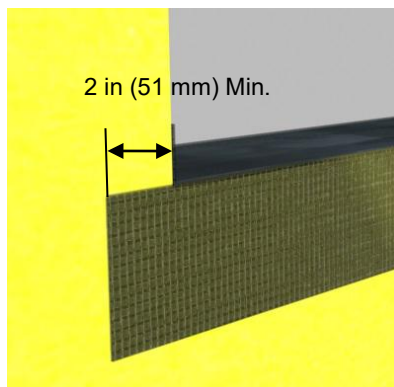

Figure 1
- 1) Cut AquaFlash Mesh to proper length [rough opening plus 4 in (102 mm)] extending 2 in (51 mm) past each jamb – Figure 1.